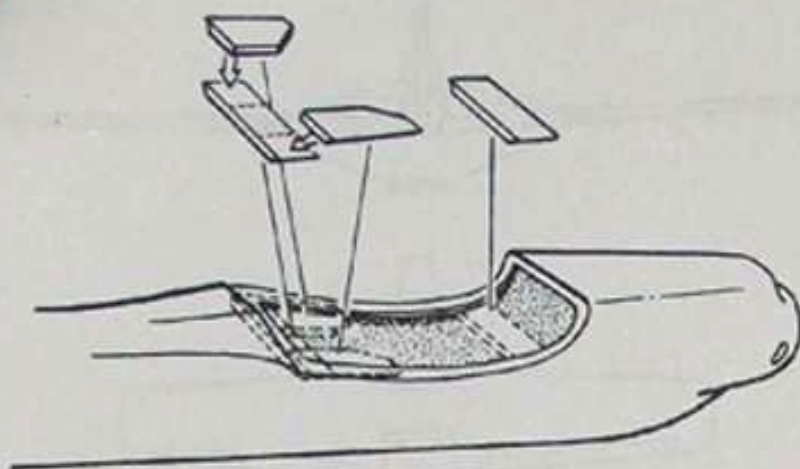
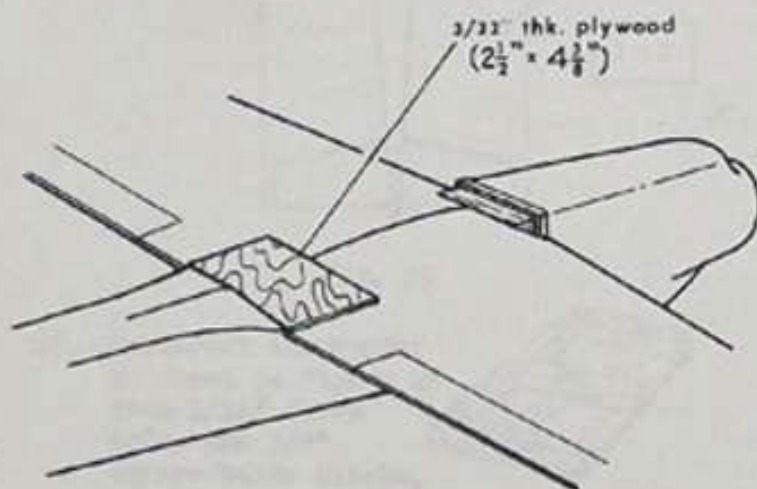
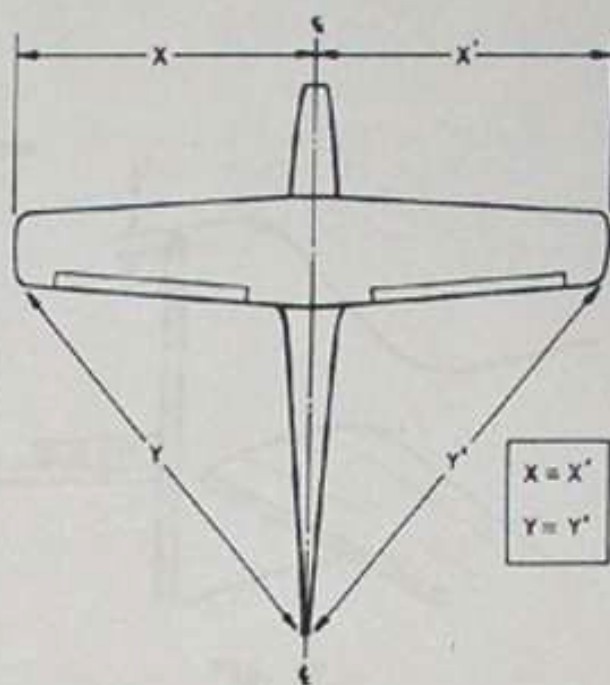
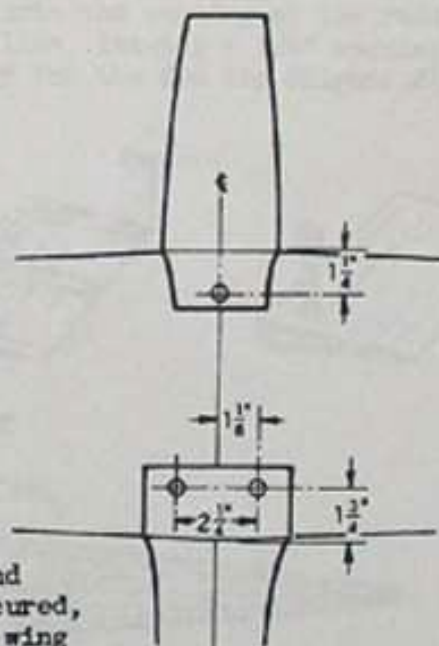

Fig. 22
Fig. 24
Fig. 23
Fig. 25
25. Glue the plywood wing mounting blocks in place with slow-drying epoxy as indicated in figure 22. Lay wing into fuselage saddle and align as in figure 23. Glue fuselage fairings onto wing as in figure 24. Using a mixture of 5-minute epoxy and micro-balloons, build up the front fairing. When cured, sand to contour with fuselage. Check alignment of wing again, then drill holes for 5/32" I.D. arrow shaft bolt guides through wing using sharpened brass tubing. Figure 25 gives location dimensions. Cut bolt guides from fiberglass arrow shafts and epoxy in place. Check alignment a third time, making absolutely sure that it is correct. Drill through bolt guides into plywood wing mounts, tap holes and bolt wing to fuselage using 1/4-20 x 2" long nylon bolts.